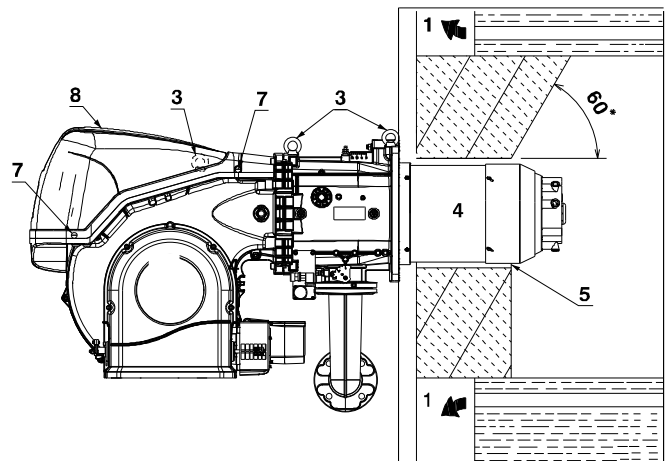

Fig. 15
For boilers with front flue passes 1)(Fig. 15) or flame inversion chamber, a protection in refractory material 5) must be inserted between the boiler fettling 2) and the blast tube 4).
Prepare a suitable lifting system using the rings 3)(Fig. 15), after removing the fixing screws 7) of the casing 8).
- Fit the heat insulation supplied onto the blast tube 4)(Fig. 15).